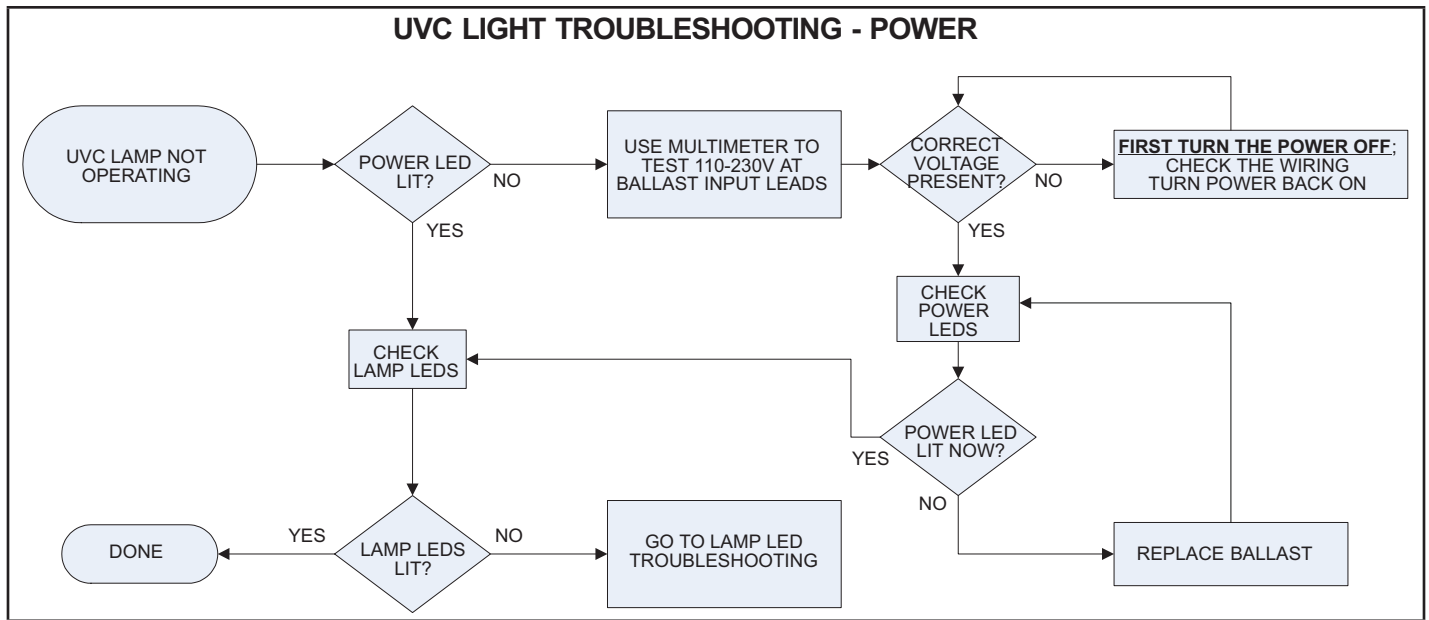
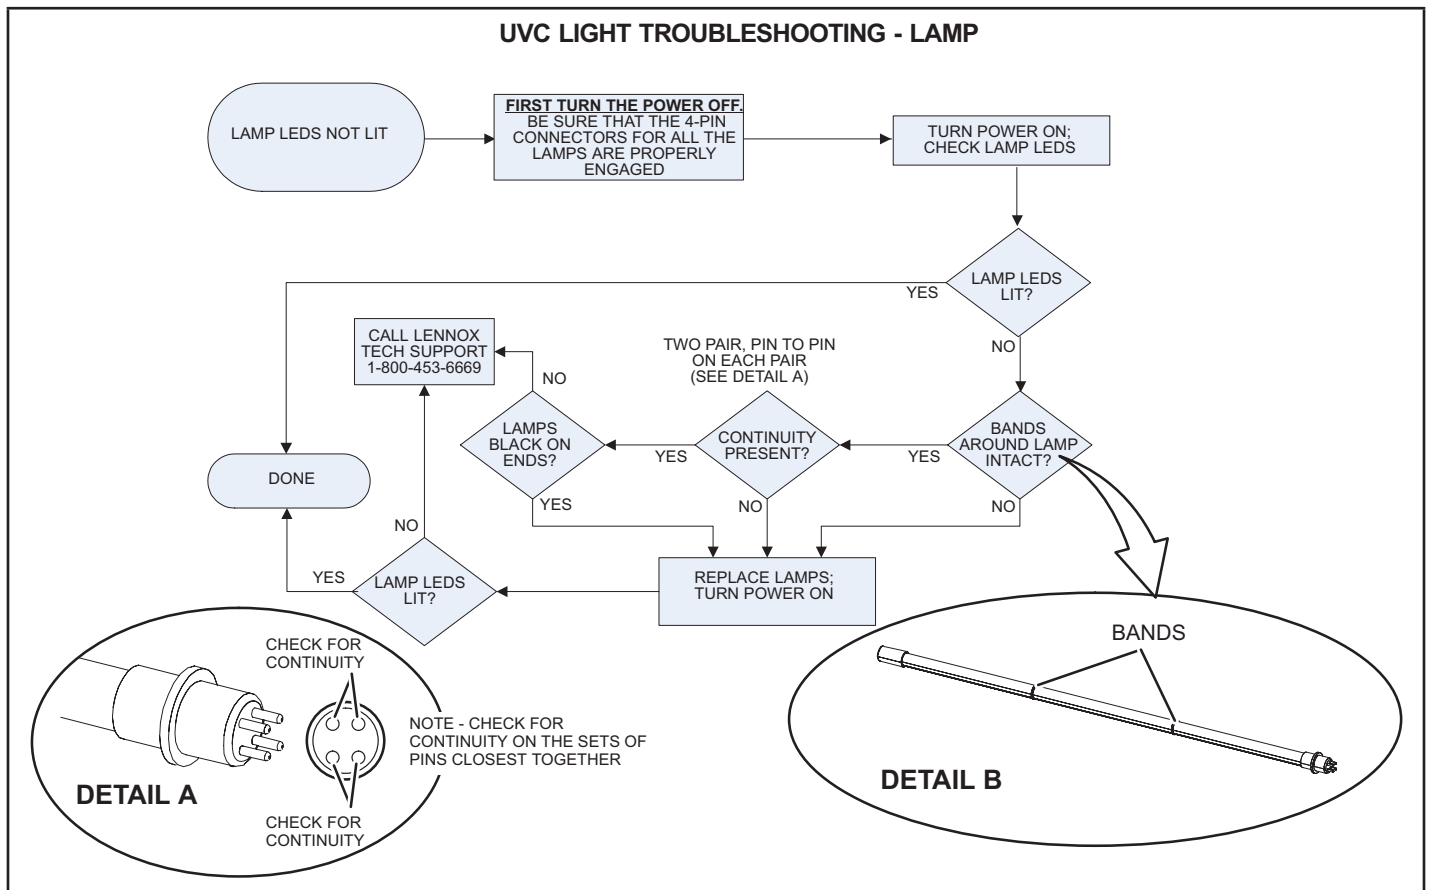

FIGURE 40
FIGURE 41
- 2 - Ohm-check across the lamp pins to check for continuity of lamp filaments (see FIGURE 41).
Troubleshooting charts are provided to aid in determining the cause of any problems encountered (FIGURE 40 and FIGURE 41).